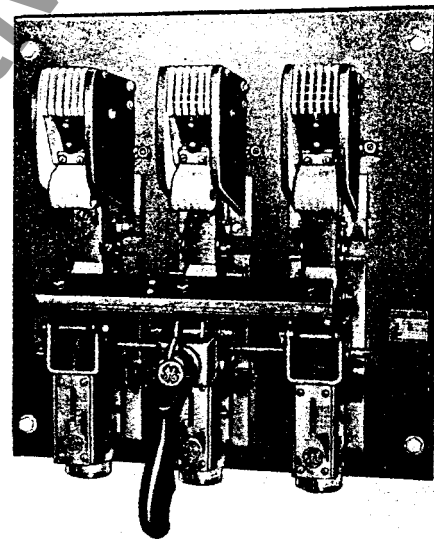

FIG. 2
3. Definitely ascertain that the contacts ordered correspond to those which are to be replaced, by comparing with Fig. 2 to 7 inclusive.